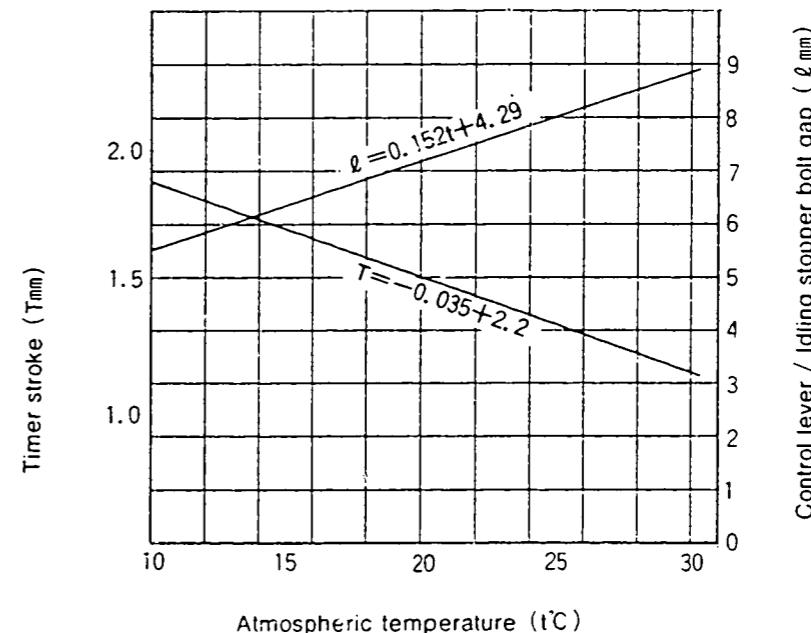

Fig. 2
- i Using the graph (Fig 2), determine the Timer Stroke according to the atmospheric temperature at the time of adjustment.
- ii Adjust using the Timer Stroke adjusting bolt so that the Timer Stroke corresponds to the value determined in note ① above.
- ② From Fig. 2 determine the dimension of the gap between the idling lever pin and the control lever according to the atmospheric temperature at the time of adjustment.
- ③ Adjust using the fast idle adjusting screw so that the gap corresponds to the value determined in note 2) ② above.